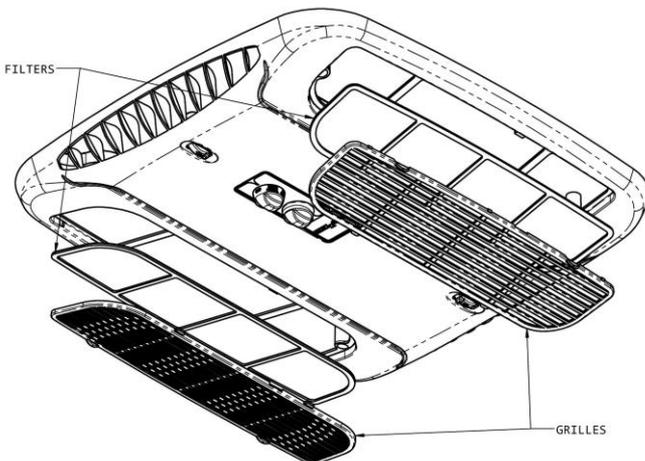

Figure 2
3. Re-install the filters and grilles in the ceiling assembly as shown in Figure 2, page 11.